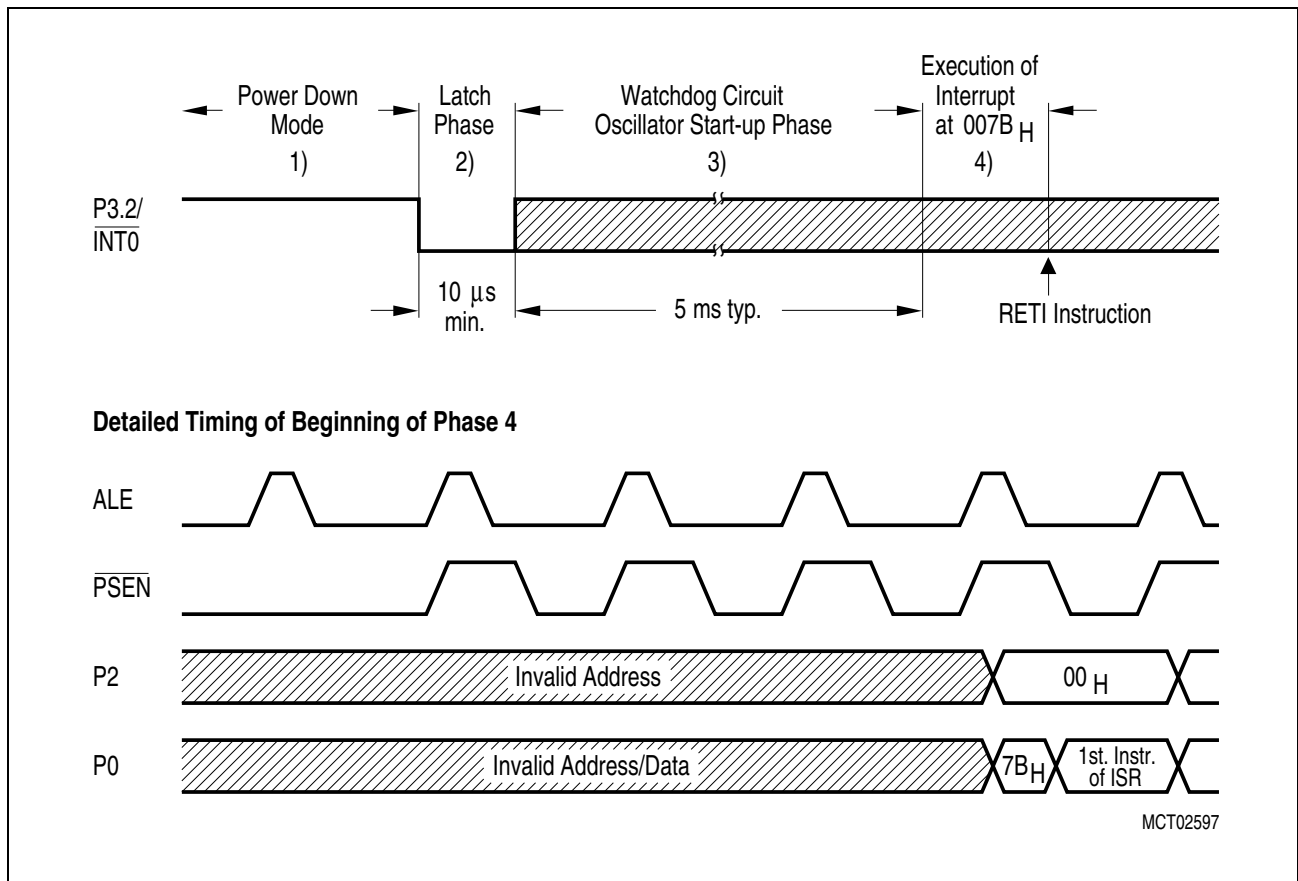

Figure 9-1
Figure 9-1 shows the procedure which must be executed when power-down modes are exited via the P3.2/ $\overline{\text{INT0}}$ wake-up request capability.
3. The oscillator watchdog unit starts operation. When the on-chip oscillator clock's stable nominal frequency has been detected, the microcontroller starts again and initiates the power-down wake-up interrupt. The interrupt address of the first instruction to be executed after wake-up is 007BH. ALE and $\overline{\text{PSEN}}$ are in their power-down state up to this time. At the end of phase 3, the CPU processes the interrupt call and during these two machine cycles, ALE and $\overline{\text{PSEN}}$ behave as shown in **Figure 9-1** (i.e., at the beginning of phase 4). Instruction fetches during the interrupt call are discarded, however.